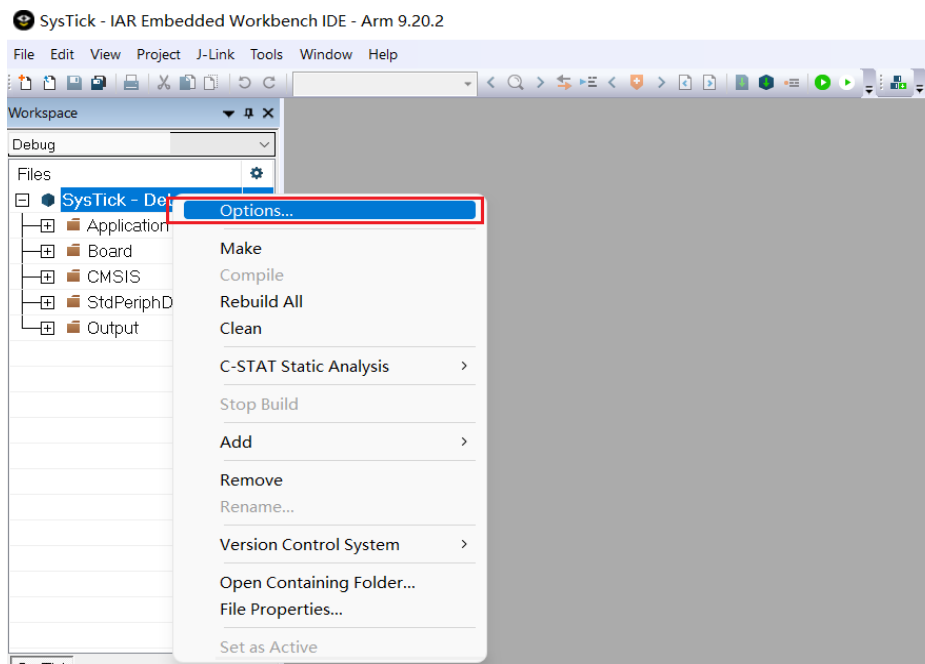

Figure 13
- a) As shown in Figure 13, open the project file and select "Options" tab.